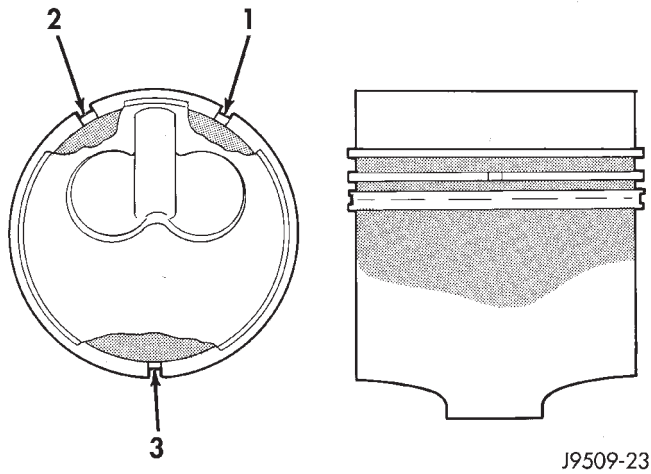

Fig. 60 Piston Ring Gap Location
(2) Top compression ring is tapered and chromium plated. The second ring is of the scraper type and must be installed with scraping edge facing bottom of the piston. The third is an oil control ring. Ring gaps must be positioned, before inserting piston into the liners, as follows (Fig. 60).
(3) Top ring gap must be positioned at 30 degrees to the right of the combustion chamber recess (looking at the piston crown from above).
(1) Before installing pistons, and connecting rod assemblies into the bore, be sure that compression ring gaps are staggered so that neither is in line with oil ring rail gap (Fig. 60).
(2) Before installing the ring compressor, make sure the oil ring expander ends are butted and the rail gaps located as shown in (Fig. 60).